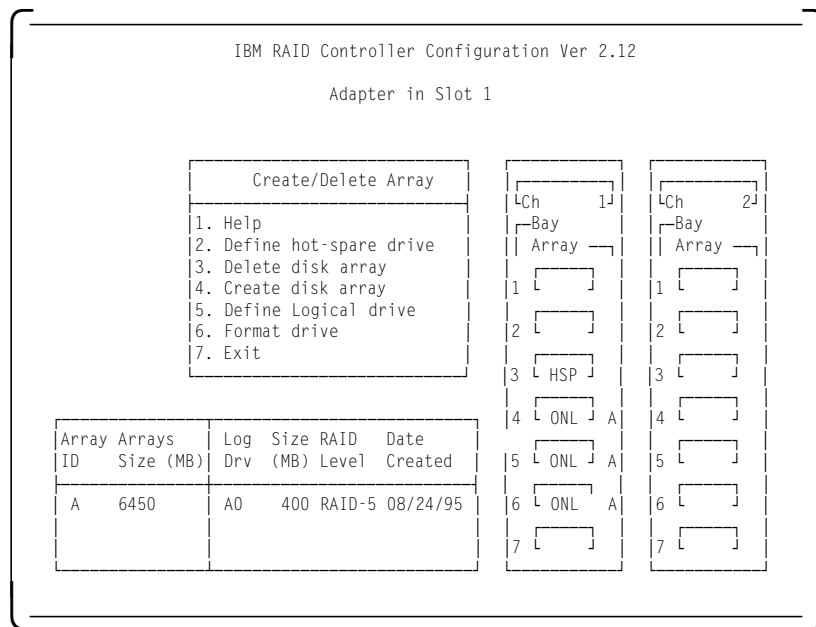

Figure 66. RAID Configuration Program - Size Definition
6. As shown in Figure 66 on page 111, information about the new logical drive appears in the logical drive list.